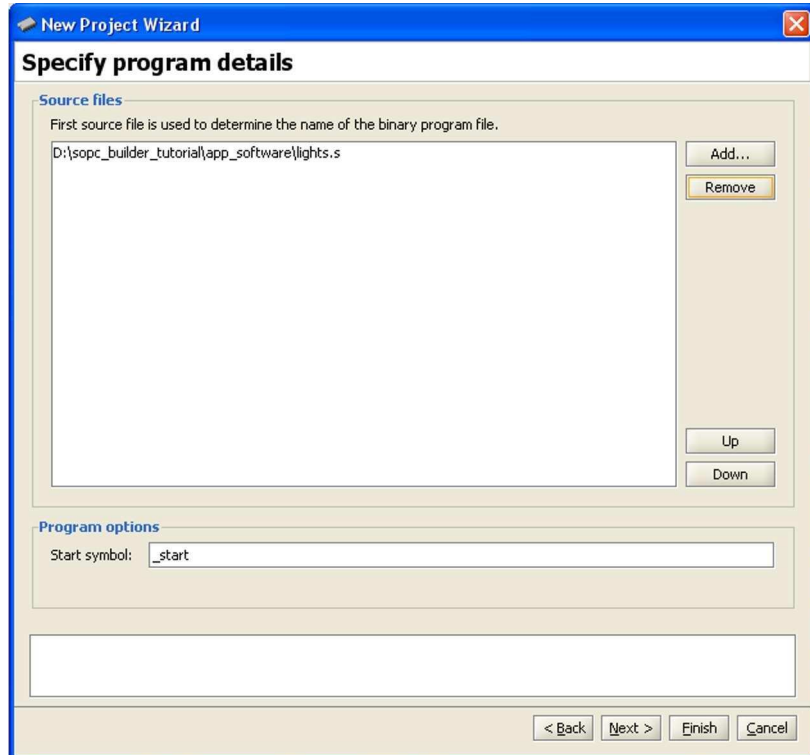

Figure 24.Specify the binary file to use.
7. Select Assembly Program as the program type from the drop down menu and click **Next >**, leading to Figure 24.